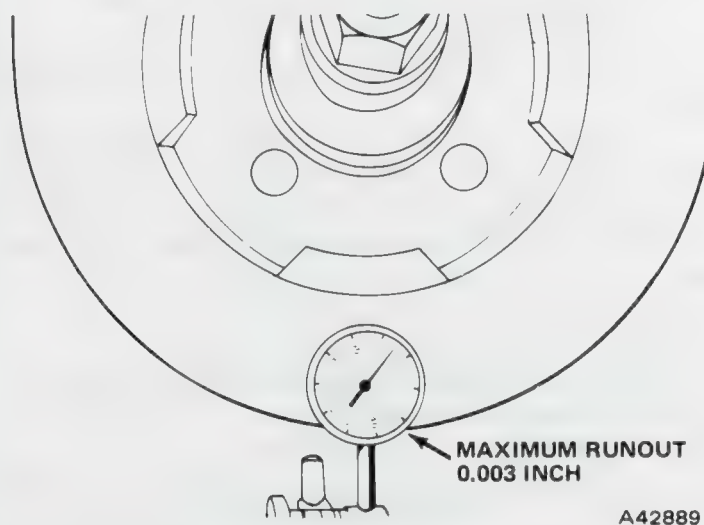

Fig. 2F-37 Checking Lateral Runout
- (1) Tighten wheel bearing adjusting nut enough to remove all end play from wheel bearings
- (2) Measure lateral (face) runout of rotor.
- (3) Mount dial indicator on support stand or wheel spindle with indicator stylus contacting outboard surface one inch from outer edge of rotor (fig. 2F-37).